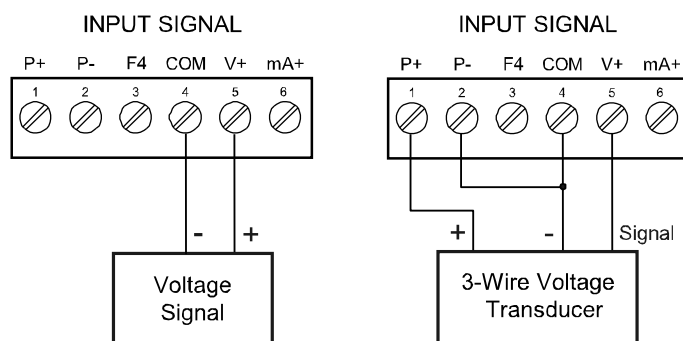

Figure 7: Voltage Input Connections
Relay connections are made to two six-terminal connectors labeled RELAY1 – RELAY4 on Figure 7. Each relay's C terminal is common only to the normally open (NO) and normally closed (NC) contacts of the corresponding relay. The relays' C terminals should not be confused with the COM (common) terminal of the INPUT SIGNAL connector.